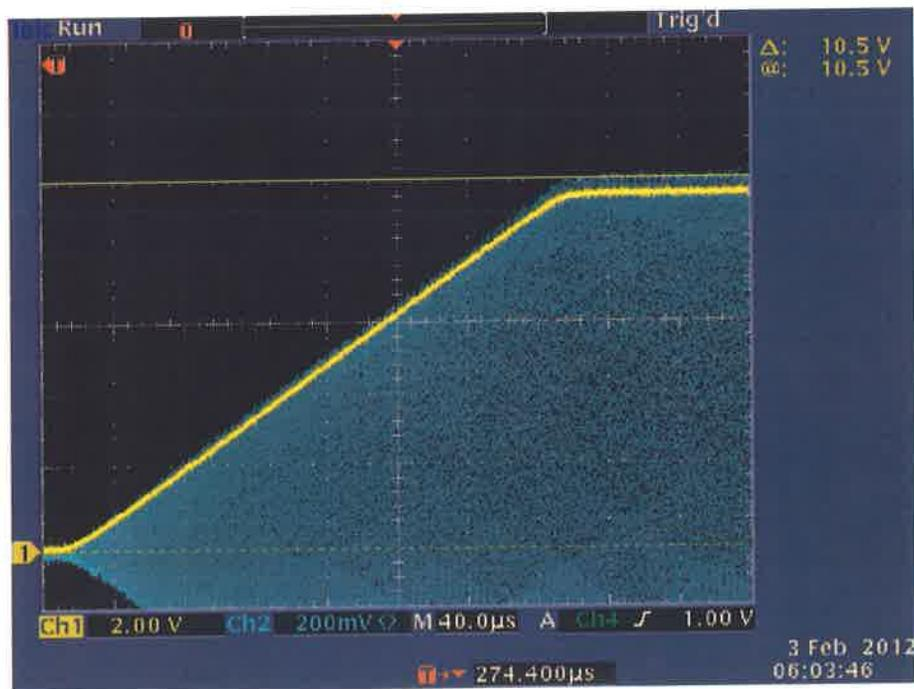

Figure 1. Typical Ramp Response of LLRF Chassis for 0-10V ramp.
8. Gain is calibrated for each chassis using a ramp from 0-10V with a RF input of -19dBm at 53MHz to achieve a peak RF envelope of $\sim 1.06V$. This corresponds to 10.5dBm of RF output, which will give a 1kW output from the Fermi Solid State Driver Amplifiers. The gains of the ZFL-1000VH vary from unit to unit, so gain cannot be used as a determining factor for calibration. Use an 8005B Pulse Generator for generating the ramp signal to be used for amplitude calibration of the LLRF Chassis, and use a TDS3034B oscilloscope to measure the ramp and also the RF output at J1 of the LLRF Chassis. The plot should look like Figure 1 at the end of this document. If gain adjustment is needed to get the RF amplitude to be on the yellow horizontal trace of Figure 1, adjust R8 on the Variable Gain Amplifier board to achieve this. Once R8 is adjusted to match the plot in Figure 1, disconnect the ramp signal from the rear panel of the LLRF Chassis and measure Pin 6 of U6 on the Variable Gain Amplifier. If it does not read 0V, adjust R15 on the Variable Gain Amplifier until it does. Make sure that the RF output tracks the ramp in a linear fashion, and the RF output should be touching or slightly above the yellow horizontal trace on Figure 1. Note the delta of 10.5V on the scope. If there is a large deviation from the ramp response, the mixer in the Variable Gain Amplifier may need to be replaced. Save a plot of the ramp transfer function from the oscilloscope.